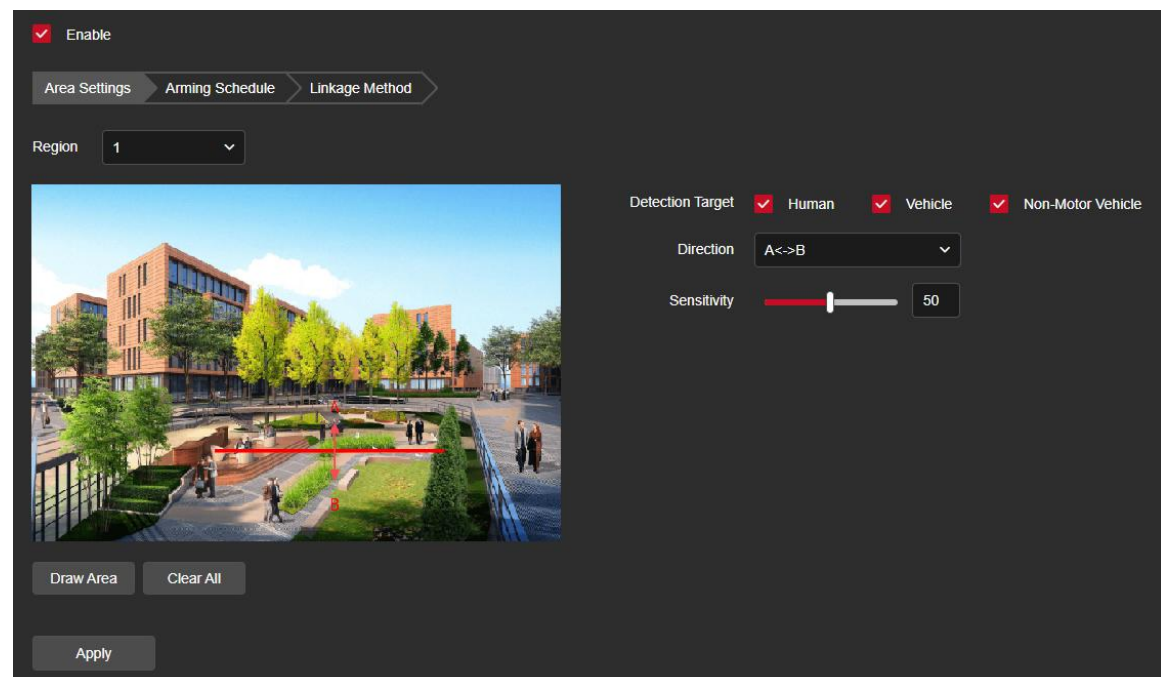

Figure 8-6-30
Step 1: In the main interface click on the "Configuration → Event → Smart Event → Line Crossing Detection" to enter the Line Crossing Detection settings interface, as shown in Figure 8-6-30.